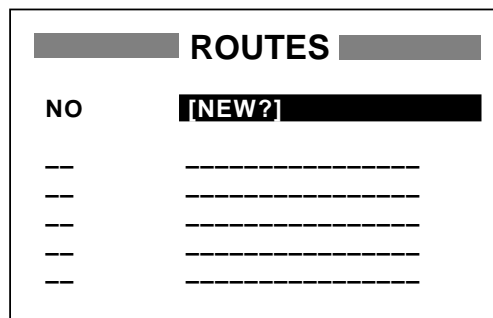

Figure 4-2 Routes menu
3. Press the [ENT] key. The screen shown in Figure 4-2 appears.